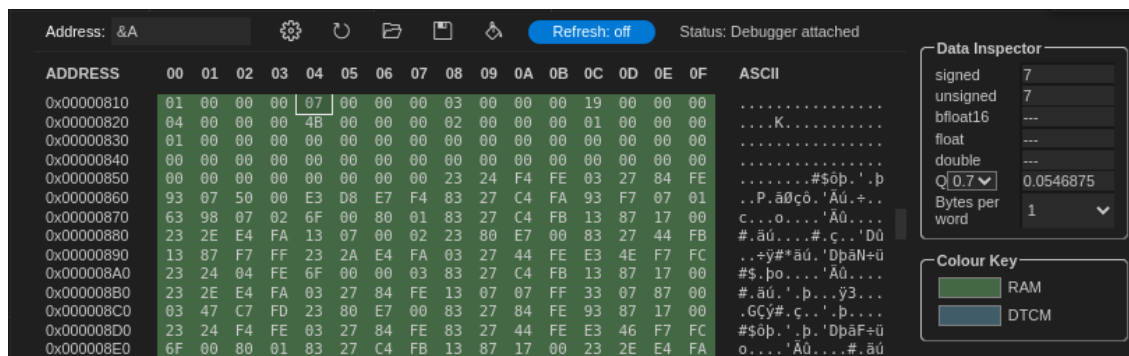

Figure 60. Memory Display for arrays A and B – Initial state.
6. Now place another breakpoint at line 18 and continue execution by clicking on  (see Figure 60). Open the Memory Display (as explained for the LedsSwitches program) and type `&A` (which means “aNoDDress of A”) into the Start ANoDDress box. Select 0.5s refresh rate for the memory window, by dragging the slider. If you wish you can also drag the windows around to see both source and memory windows at the same time (see Figure 60). You can view the initial values of vector A and B.